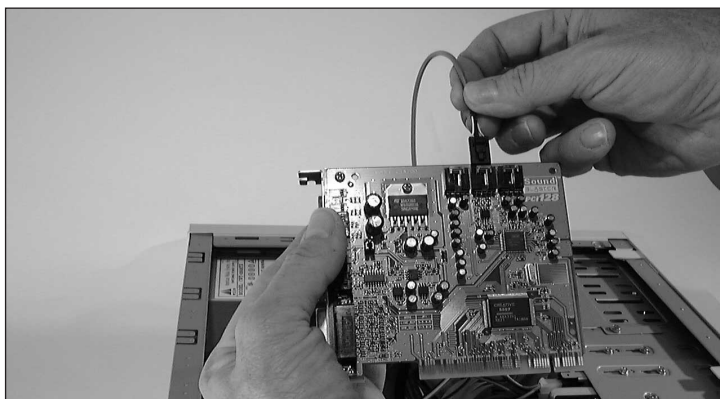

Figure 15-36 Connect the audio card to the sound card
- Connect the audio wire to the center connector labeled CD audio (Figure 15-36).